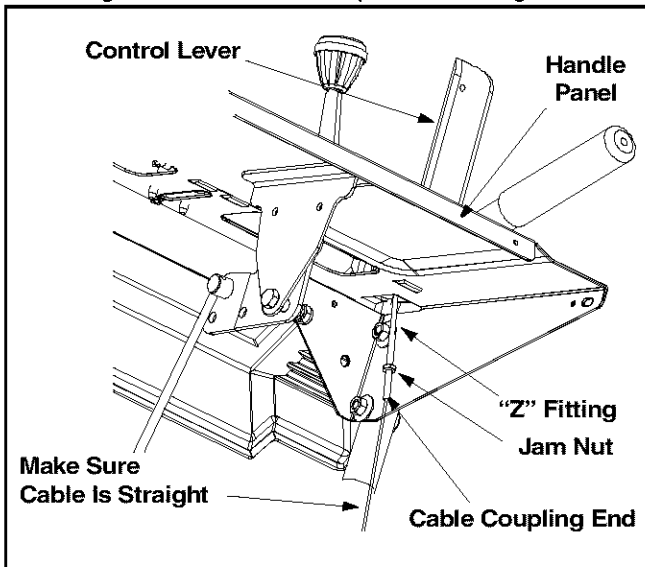

Figure 4
- Thread the jam nuts all the way up each of the "Z" fittings, toward the handle panel. See Figure 4.